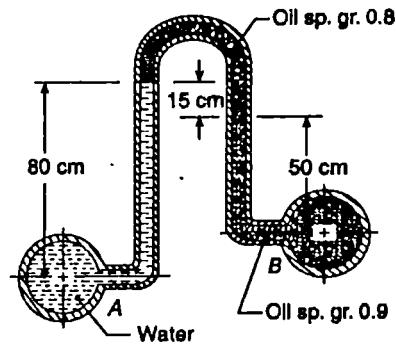

Fig. 2-34.
6. An inverted differential manometer, when connected to two pipes A and B, gives the readings as shown in Fig. 2-34. Determine the pressure in the tube B, if the pressure in the pipe A be 50 kPa.